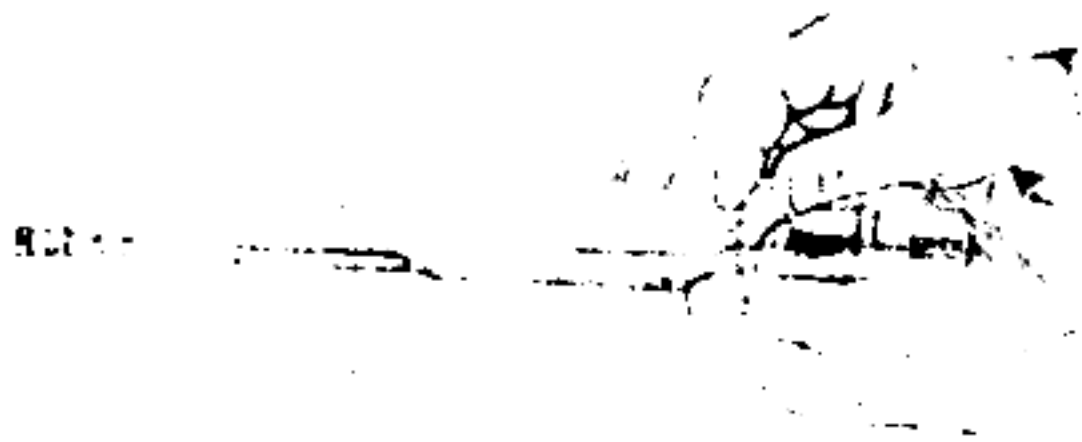

Figure 68. Removing the bolt from the operating rod.
9. Remove the bolt from the operating rod. Take the operating rod in the left hand with the cam surface facing upward, and rotate the bolt a small amount with the right hand so that the guide lug leaves the wide part of the variable groove in the operating rod, and then move the bolt to the rear as far as possible; rotating the bolt, remove its guide lug from the variable groove of the operating rod and remove the bolt from the operating rod by moving it forward (fig. 68).